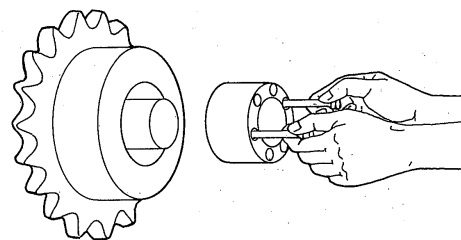

Fig. 3 Insertion example
3. After completing the pre-assembly of the POWER-LOCK, hold the bolts in the tapped holes of taper ring A as shown in figure 3 and insert the POWER-LOCK into the hub and shaft. Never strike the POWER-LOCK with a hammer or other such tools during installation. If the POWER-LOCK is installed horizontally, properly support the hub so that it does not become tilted under its own weight. (This tilt will lead to the deformation or damage of the POWER-LOCK or hub.)